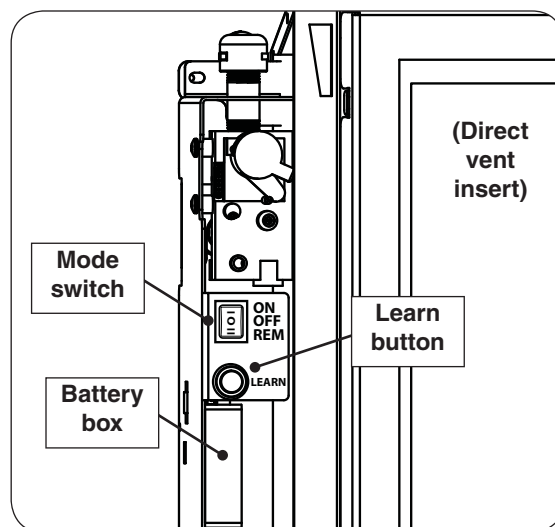
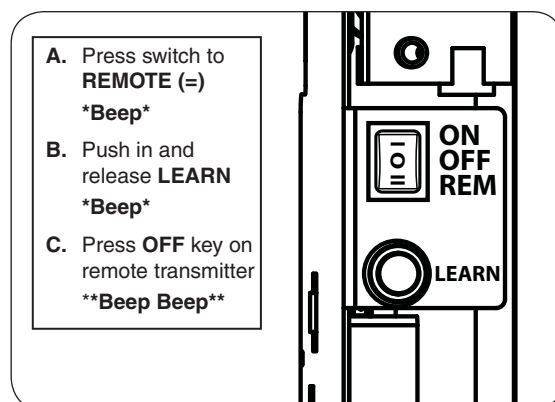

Fig. 53-2 Control box (left side of unit)
Fig. 53-4 Sync detail
The system requires 4 AA batteries that serve as a back-up power source. Open the surround door and locate the battery box in the control box (see Fig. 53-2).
1. Open the surround door. Locate the 3-position mode switch on the control box (see Fig. 53-2). Press the switch down to the **REMOTE (=)** position (see Fig. 53-4). The system will beep within 5 seconds.
2. Push in and release the **LEARN** button (see Fig. 53-4). The system will beep.